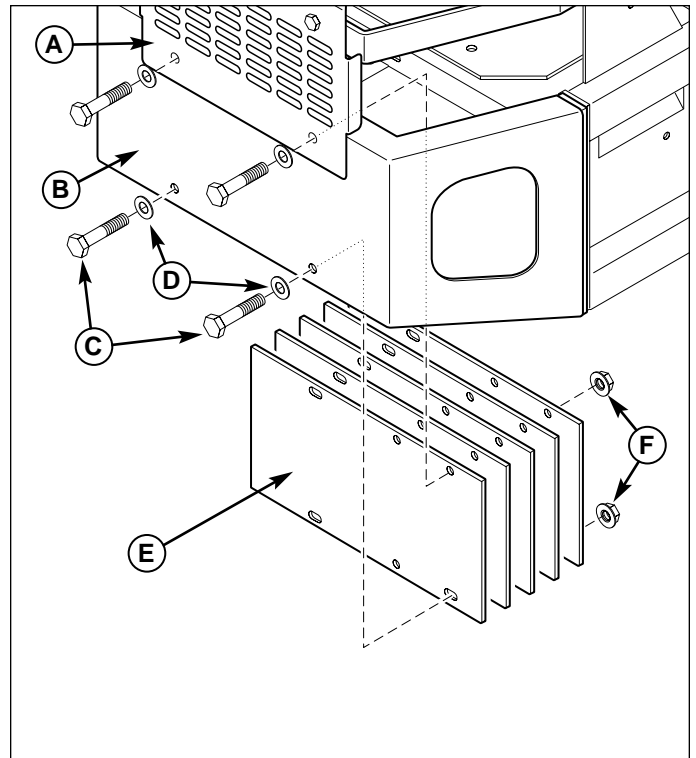

Figure 1. Install the Counterweights
1. Remove and discard the (2) 3/8" bolts, washer & nuts that fasten the rear shield (A, Figure 1) to the bumper (B).
2. Install the 3/8-16 x 2-1/4" bolts (C) and 3/8" flat washers (D) through the bumper and rear shield.
3. Install the five counterweights (E) onto the new bolts (C) and secure with the 3/8-16 serrated flange nuts (F).